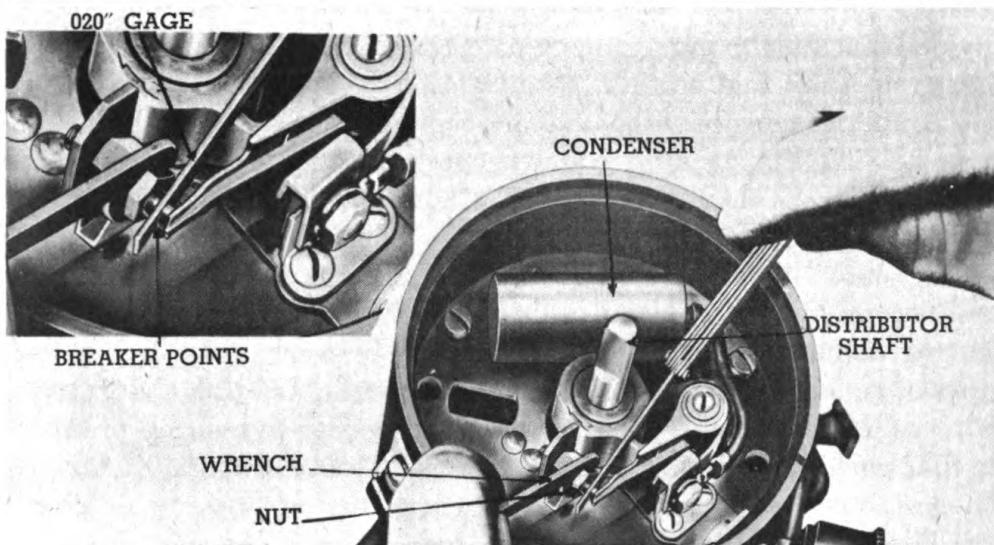

Figure 20—Adjusting Distributor Points .020 Inch Gap
- c. Adjust distributor breaker points to open .020 inch. (Figure 20.) Check distributor cap and rotor for cracks and corrosion. Inspect the small lead wires for breakage or damaged insulation. Check for excessive play in distributor vacuum advance plate bearing.